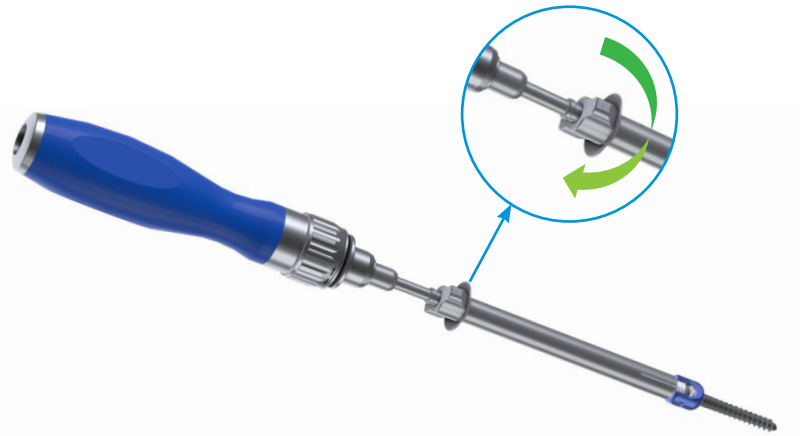

Figure 8c: Locking the screw on the screw driver by turning the butterfly
- vi. Secure the Screwdriver into the pedicle screw by turning the butterfly knob and advancing the Screwdriver Sleeve and the threads of the Screwdriver clockwise (in the direction of the lock symbol located on the butterfly knob). An audible sound indicates that the Screwdriver's locking mechanism is engaging (Figure 8c).